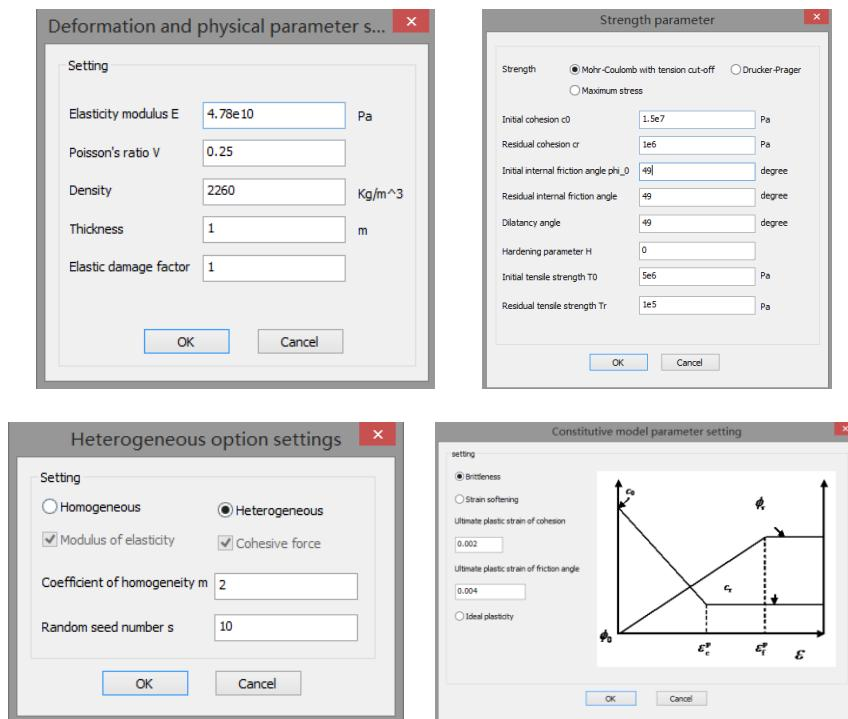

Figure 40 Material definition
- (3) Define the material parameter (Figure 40);